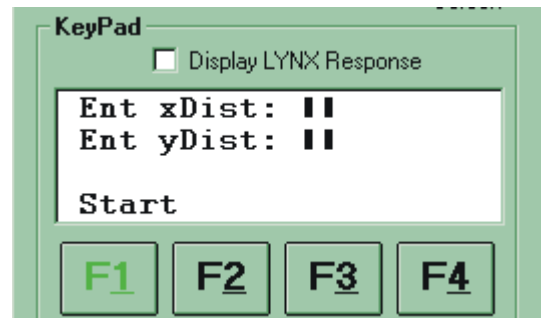

Figure 4.30: Screen 1 Setup
- 2] Enter the text into the display window as shown in Figure 4.30.